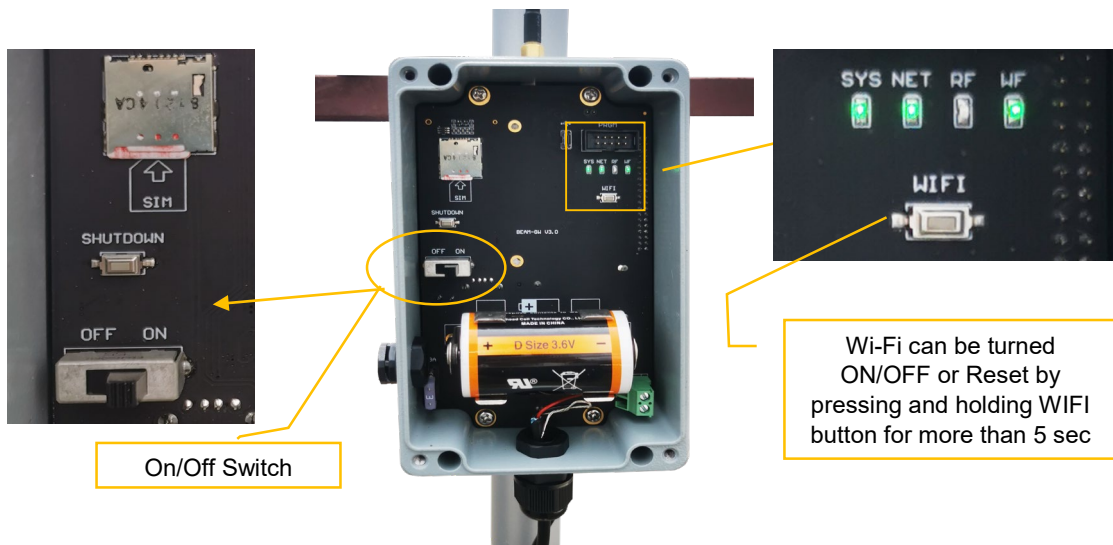

Figure 3-1 Gateway details
- 2 Switch on the gateway by putting the power switch to ON position. On/Off switch shown in figure 3-1.
- 3 Once the gateway turns ON, RF LED (Radio Signal) will turn green. After around 1~2 minutes, the WF and SYS LED will also turn green (refer to figure 3-1). The RF and SYS LED will start blinking after few seconds, while the WF LED will stay green (RF and SYS LED will be in blinking state for about 4 minutes and then stop glowing).